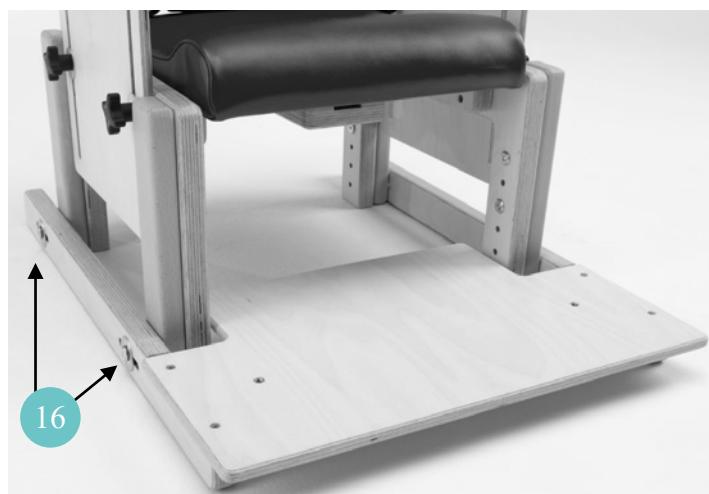

Figure 11
- The screws fit into the chair outriggers on each side of the chair (*Ref. 16 of Figure 11*).
- The footboard can be reversed by removing four screws (*Ref. 16 of Figure 11*), rotating the complete board and ski assembly and reattaching.